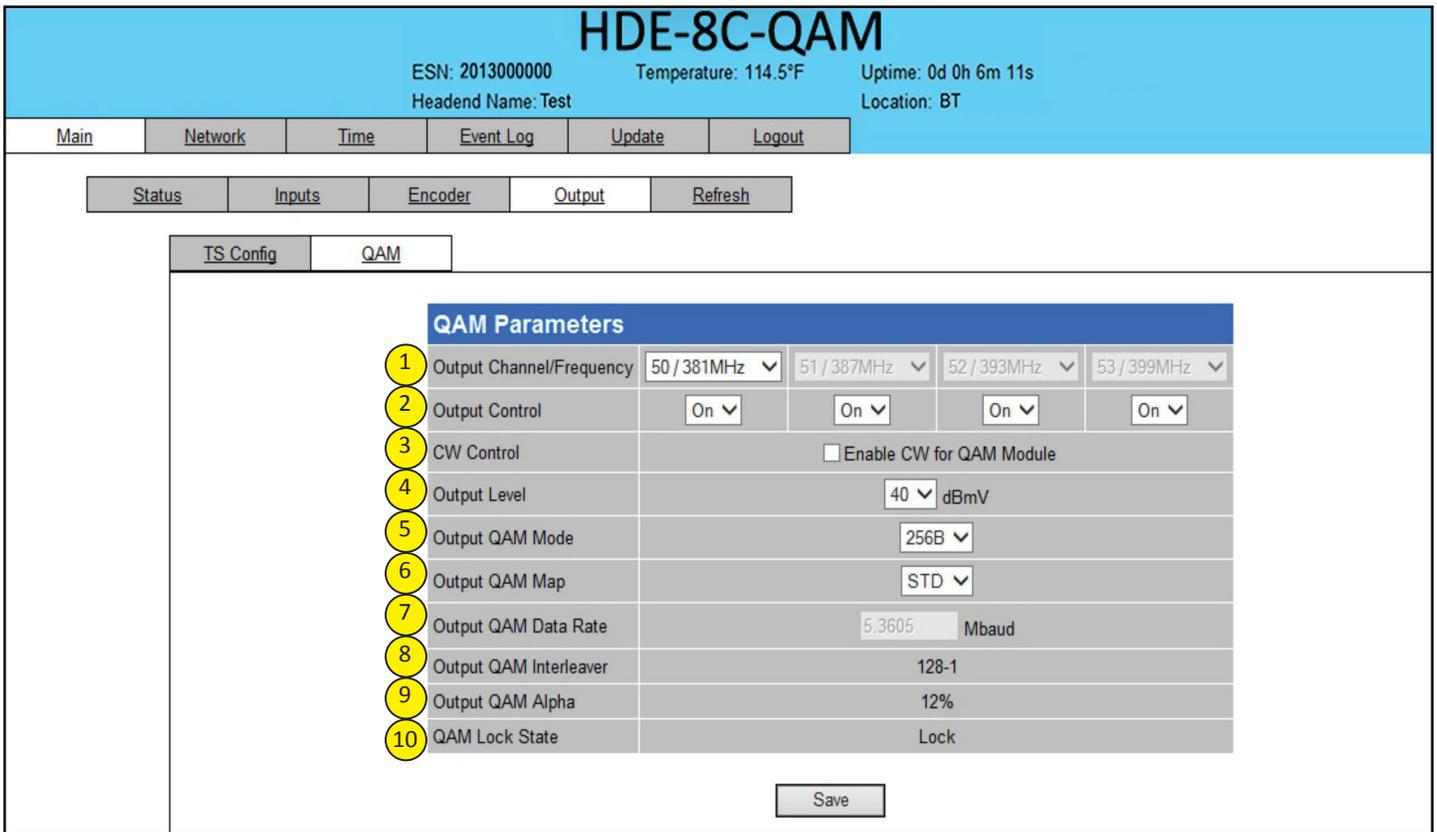

Figure 5.5.2 - "Main > Output > QAM" Screen
The "Main > Output > QAM" screen (Figure 5.5.2) is a "user-configurable" screen to assign QAM parameters to the TS:
- 1 **Output Channel/Frequency:** user must assign a RF channel number to the RF QAM output of the Quad-QAM module (i.e. RF channel 50, as shown in Figure 5.5.2). The remaining three RF QAM channels will be automatically assigned to the next adjacent channels (i.e. RF channels 51, 52, and 53). The range is NTSC channels 2 to 155.